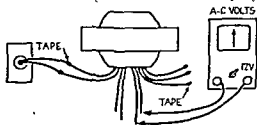

FIG. 8-10 Identifying the amplifier heater winding.
3. Connect the primary to the a-c line, and check the voltage of the filament windings to determine which is the amplifier and which the rectifier filament winding (Fig. 8-10).